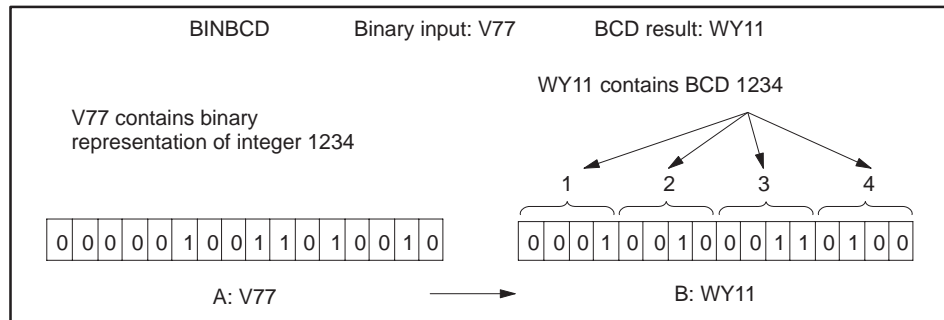

Figure 7-8 Example of BINBCD Operation
**BINBCD Operation** The operation of BINBCD is described below and illustrated in Figure 7-8.